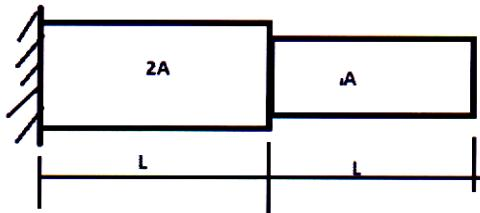

Figure 4
b) Find the natural frequencies of longitudinal vibrations of the same stepped shaft of area A and $2A$ of equal length(L), as shown in figure 4. Use consistent mass matrix. [10]